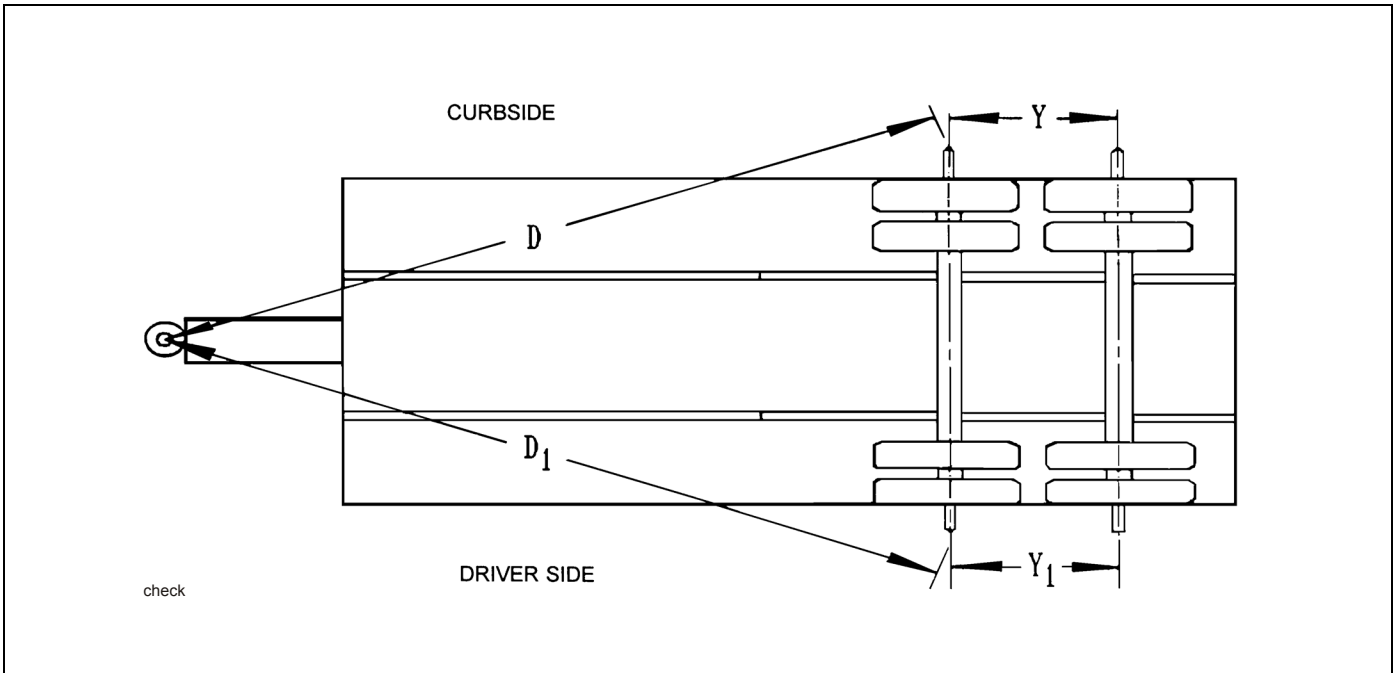

Figure 4-7: Checking Axle Alignment
3. Move the axle gauge and place against the back side of the axle. If either of the points of double point end fails to touch the axle surface, a bent spindle is evident. A point gap of .015" or more is considered excessive tire “toe” and the axle must be replaced **(See Figure 4-7.)**
4. Measure (D) from the plumb bob to the center point on one end of the axle. Record this measurement **(See Figure 4-7.)**
5. Measure (D1) to the other end of the axle in the same manner as in **step 4**. Record this measurement **(See Figure 4-7.)**